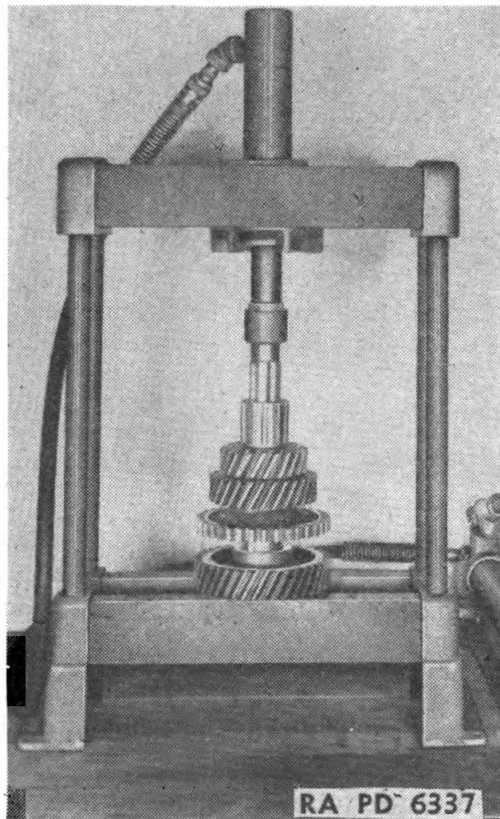

FIGURE 146. Pressing on transmission countershaft drive gear.
(3) Replace drive gear—brass drift, hammer, press. Replace Woodruff key. Set up in press and press gear on shaft (fig. 146).